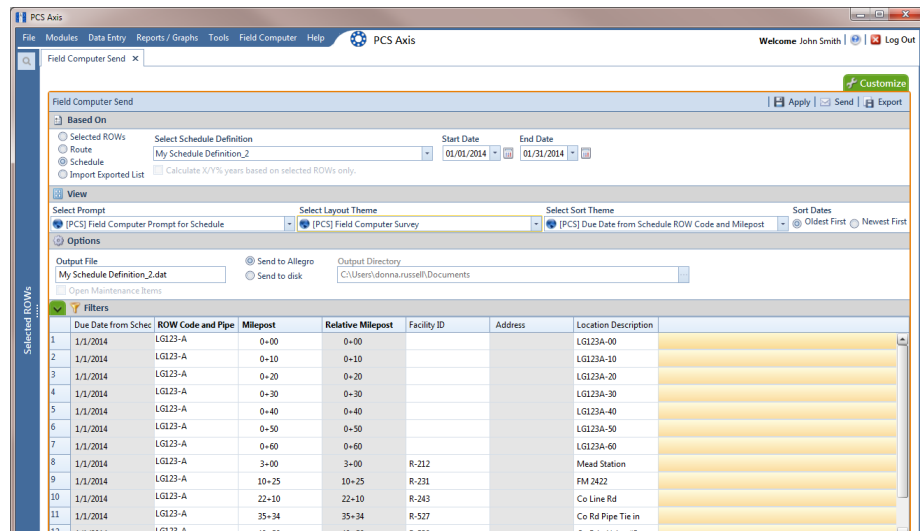

Figure 13-27. Field Computer Send Based on Schedule
- a Click the **Schedule** option (Figure 13-27). Then click the down arrow in the **Select Schedule Definition** field, and choose a schedule definition in the selection list.